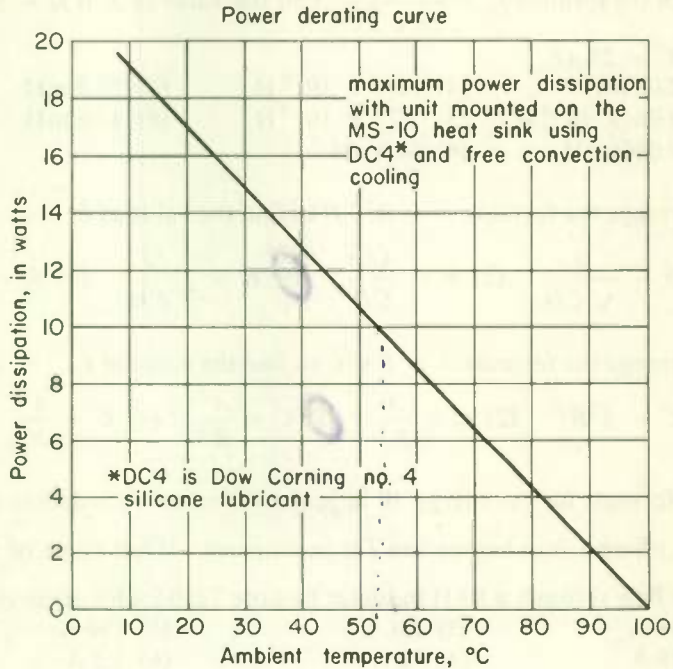

Fig. 32
12. The higher the temperature of the area in which a semiconductor is used, the lower the power the semiconductor can handle without overheating. Manufacturers publish power derating curves that show how the permissible power dissipation decreases with temperature. Figure 32 is the power derating curve for a certain semiconductor device. If the power dissipation for the intended use is 10 W, the temperature where the semiconductor is used (called the ambient temperature) must not be greater than
- (1) 0°C.
- (2) 19°C.
- (3) 53°C.
- (4) 60°C.
- (5) 100°C.
13. The curve in Fig. 32 is known in electronics as a